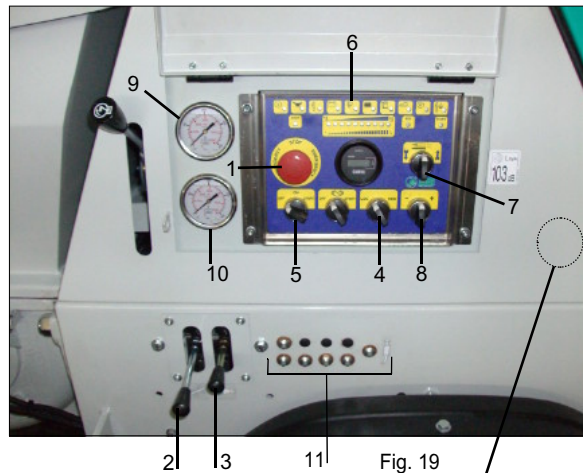
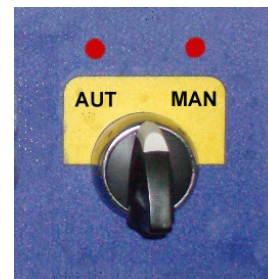
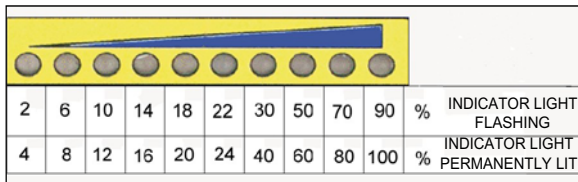
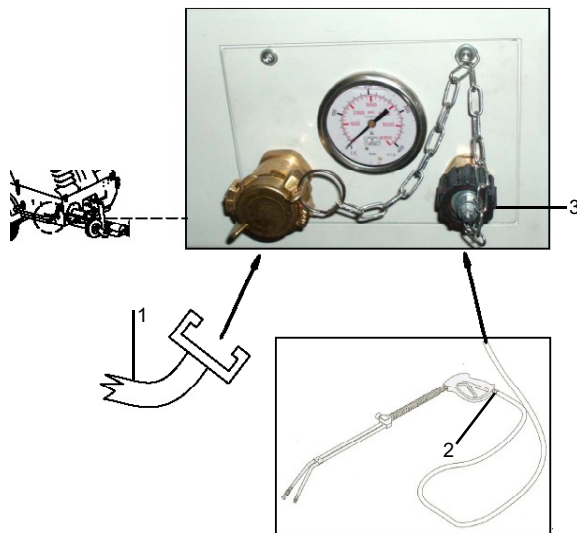

Fig. 19
Fig. 20
Fig. 21
Fig. 22
Make sure the levers of the distributor (Fig. 19, Ref. 2-3) are all in the middle position.
Make sure the emergency button is not pressed (Fig. 19, Ref. 1) and release it if necessary.
Check that the switch (Fig. 19 Ref. 4) is in the LOC position, to enable the local controls. Turn the selector (Fig. 19 Ref. 5) to ON, wait for the spark plug indicator light (Fig. 19 Ref. 6) to switch off and then turn the switch to START (Fig. 19 Ref. 7): the Diesel engine starts.
Turn the switch (Fig. 19 Ref. 7) to the right (arrow upwards): the machine starts to pump. Use the flow switch (+/-) (Fig. 19 Ref. 8) to adjust the flow rate as shown on the LED indicator bar (Fig. 21). The flow rate can be set to twenty different positions, which represent the following percentages of the maximum flow rate (Fig. 21). Otherwise the machine can be started using the electric remote control, by setting the selector (Fig. 19 Ref. 4) to REM which enables the remote control.
With the switch (Fig. 19 Ref. 4) set to REM, the machine is controlled exclusively by means of the electric remote control. Depending on the machine configuration, wait until the grout in the hopper reaches the level of the mixer, or until the product no longer comes out of the pipe. At this point shut down the machine with the electric control, fill the hopper and start working. Adjust the quantity of material delivered from the pipe or jet with pushbuttons (+) and (-) (Fig. 19 Ref. 8).
operation, turn the switch (Fig. 20) to the right and hold it there for 3 seconds, then release it; the led for the selected function will light up. In manual mode, the pump runs at maximum speed.
To enable automatic operation, turn the switch (Fig. 20) to the left and hold it there for 3 seconds, then release it; the function light lights up and the led indicator bar (Fig. 21) on the control panel starts to flash to indicate the previous setting. To increase/decrease the percentage of accelerant, use the switch (Fig. 20) in small steps to the right/left respectively. If you do not operate the switch for a few seconds, the led indicator bar (Fig. 21) stops flashing and the previously set percentage is stored. The speed of the accelerant pump is a function of the flow rate of the pistons and the percentage set on the led bar. To deactivate manual or automatic operation, turn the switch to the same position to which it is set for a few seconds and release it. The accelerant percentage is in the range of 1 to 5% of the weight of cement. The pressure gauge (Fig. 19, Ref. 9) indicates the pressure of the S valve's hydraulic circuit; it will rise to 160 bar in case of blockage. Try operating the mixer with the distributor lever (Fig. 19 Ref. 2): with the top lever the mixer turns correctly; with the bottom lever it turns in the other direction. The pressure gauge (Fig. 19, Ref. 10) indicates the pressure of the mixer's hydraulic circuit; it will rise to 140 bar in case of blockage. The RH (shorter) lever of the distributor (Fig. 19, Ref. 3) is used for operating the hydraulically controlled pressure water cleaner: it must be in the middle position when the pressure water cleaner hoses are not connected to the water supply. Otherwise the pressure water cleaner will quickly become permanently damaged
In case of an emergency, press the red emergency button (Fig 19, Ref. 1) to stop the machine. The BOOSTER 15 is also equipped with throttle lever to adjust the Diesel engine speed from 2400 to 2700 RPM.
Prolonged shutdown can cause clogging in the material delivery lines: in this case no material is delivered from the jet and the pressure gauge (Fig. 19 Ref. 9) indicates a higher pressure than the normal working value.
In this case, turn the switch so its arrow is pointing down (Fig. 19 Ref. 7) (opposite to the normal working position) thus inverting the timing between the S valve and using the pump in suction to depressurise the pipes. As soon as the pipeline becomes soft and flexible (the pressure gauge reads 0 bar), stop the machine.
⚠ **If necessary, disconnect the Spritz Beton jet and open the pipeline couplings, checking previously if any residual pressure is present. The pressure gauge (Fig. 19 Ref. 9) must indicate 0 bar and the pipelines, excluding the clogged sections, must be flexible. The operator carrying this out must be specially trained in these procedures.**
After pumping the last mixture, stop the agitator (Page 2 Ref. 8), the pump unit (Page 2 Ref. 1) the grill vibrator (Page 2 Ref. 12) by pressing the button in question, if the machine is equipped with a set accelerant pump, stop it with the switch (Fig. 20)
Open the tank evacuation hatch (Fig. 3 Ref. 1) to expel any remaining material and then clean the tank with a jet of water. Now start the pistons in suction mode by turning the switch (Fig. 19 Ref. 1) to the left and direct the water into the S valve's delivery hose (Page 2 Ref. 9). Continue until clean water runs out of the tank.
If the pressure water cleaner is present, after connecting the suction pipes (Fig. 22, Ref. 1) to a water supply with an adequate flowrate (at least 25 l/min) - **do not suck water from a drum** - and the delivery pipes, with the lance supplied (Fig. 22, Ref. 2), to the connection on the machine (Fig. 22, Ref. 3), start it with the left lever (shorter) of the distributor (Fig. 19, Ref. 3) and begin washing operations. **Make sure not to accidentally operate the pressure water cleaner control lever during work: by turning empty it will quickly become permanently damaged.**
**⚠ Before opening a material delivery hose coupling, make sure the safety lever is open, the pressure gauge (Fig. 19 Ref. 9) reads zero bar and there is no residual pressure in the hoses.**
If pumping is vertical, the sponge can be inserted at the end of the terminal hose, and suction activated by turning the switch to the left (Fig. 19 Ref. 7). The concrete will be drawn back into the tank.
Every day, at the end of work and with the machine running, grease the affected points with the greasers located at (Fig. 19 Ref. 11). A grease pump is supplied with the machine for that purpose.